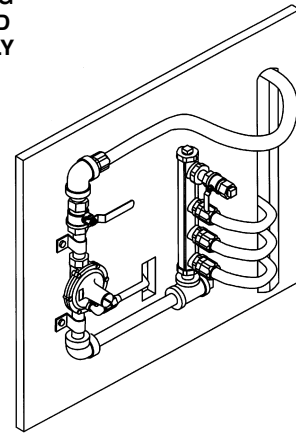
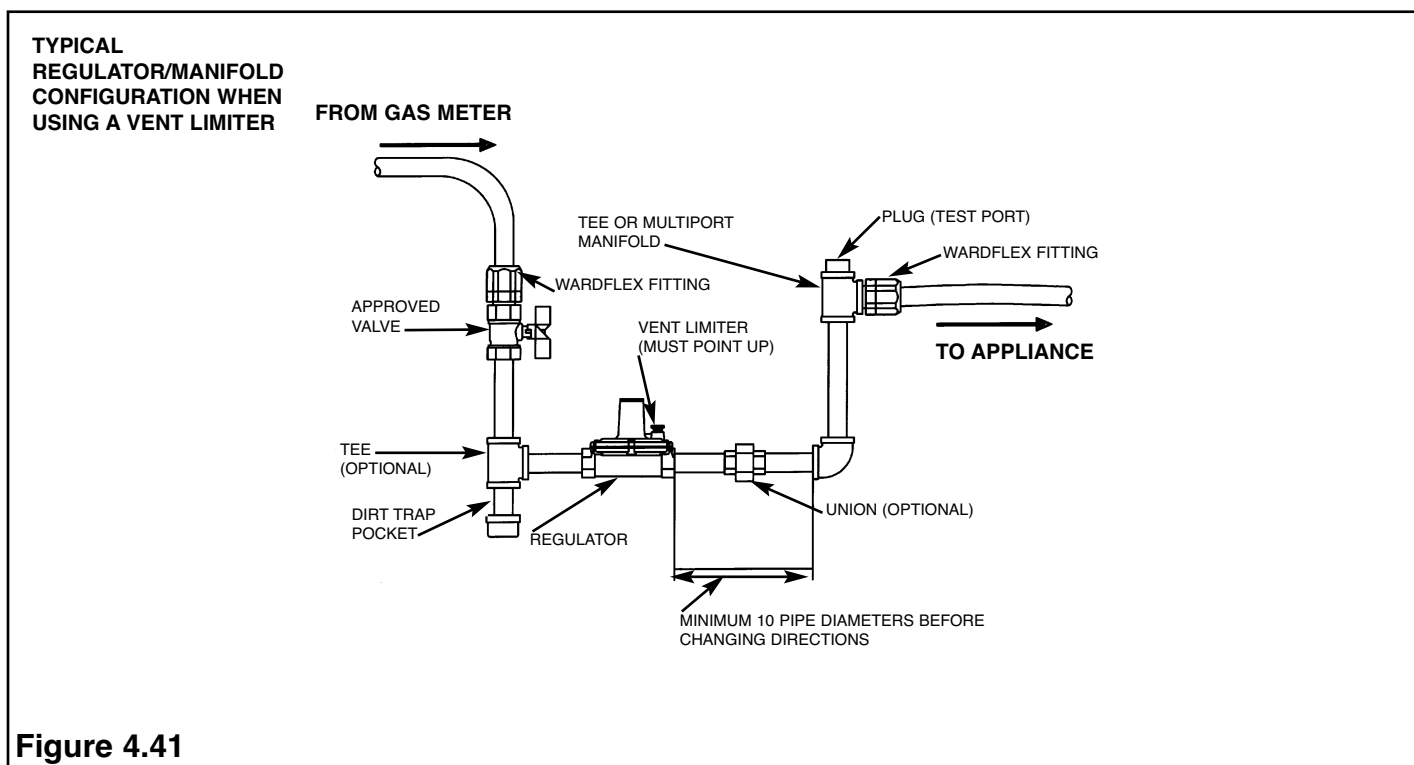

Figure 4.39
Figure 4.41
- Use an accessible, CSA Design Certified shut-off valve ahead of the line regulator and also at each appliance (See Figure 4.41). If the line regulator serves only one appliance and the shut-off valve and regulator are near the appliance, it is usually unnecessary to install a second shut-off valve. A shut-off valve is not required ahead of a manifold supplying gas less than 1/2 PSIG (low pressure) system.
- A CSST fitting may be used as a connection to allow servicing and replacement of the line regulator. However, if desired, a pipe union may be installed downstream of the regulator (See Figure 4.41).
- A tee connection on the inlet side of the line regulator may be used to monitor supply pressure to the regulator. This tee may also serve as a dirt pocket if required by the local authority (See Figure 4.41).
- When surface mounting a manifold assembly to a wall, use a plywood backing plate for mounting. Fasten the manifold assembly to the plate and secure it to the studs (See Figure 4.39).
- The pressure regulator must be installed in the horizontal (stem up) position when a vent limiter device is used (See Figure 4.41). If installed otherwise, problems with control of downstream pressure may occur. When a vent line is used in place of a vent limiter device, the regulator may be mounted in any position. E.g. Figure 4.39.
- Use an accessible, CSA Design Certified shut-off valve ahead of the line regulator and also at each appliance (See Figure 4.41). If the line regulator serves only one appliance and the shut-off valve and regulator are near the appliance, it is usually unnecessary to install a second shut-off valve. A shut-off valve is not required ahead of a manifold supplying gas from a 1/2 PSIG (low pressure) system.